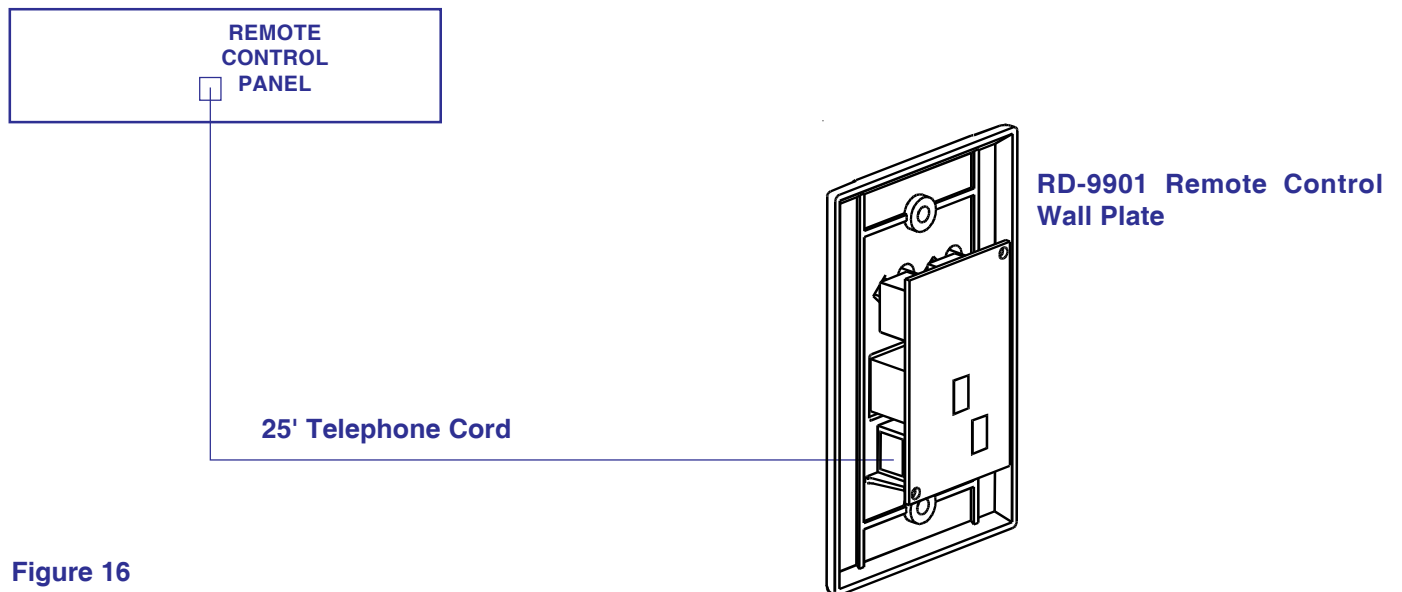

Figure 16
1. Connect the 25' telephone cord to the REMOTE CONTROL PANEL plug on rear of positioner. See Figure 16.
2. Connect other end of telephone cord to plug on side of RD-9901. See Figure 16.